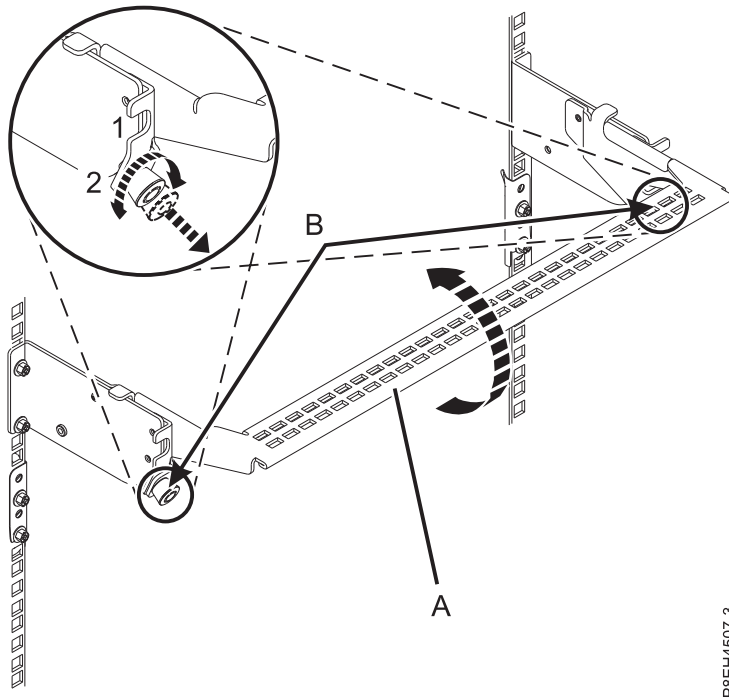

Figure 62. Placing the cable management bracket in the service position
6. At the rear of the EMX0 PCIe3 expansion drawer, put the cable management bracket in the service position. See Figure 62 on page 59.